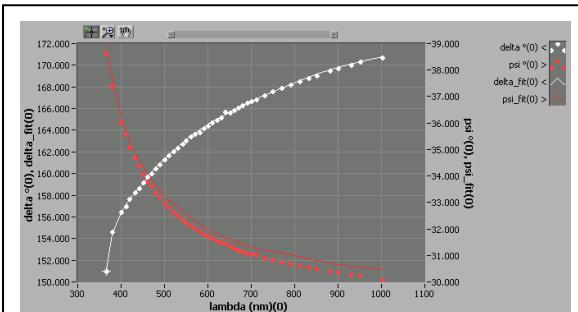

Fig. 2: Spectrum of Delta/Psi, fit with thickness  $d = 26.21 \pm 0.15$  nm of SiO2-layer on Si-wafer
- Fit a spectrum (fig.2) in order to obtain the mean layer thickness in the ROI. Optionally the dispersion of the refractive index is obtained.
In case of mixed or doped semiconductor materials it is often necessary to measure the dispersion parameters of the refractive index, e.g. Cauchy-parameters, as fit parameters besides the thickness. To this end a wavelength spectrum (fig.2) was measured. The fit of the measured spectrum is already good using the refractive index from literature.